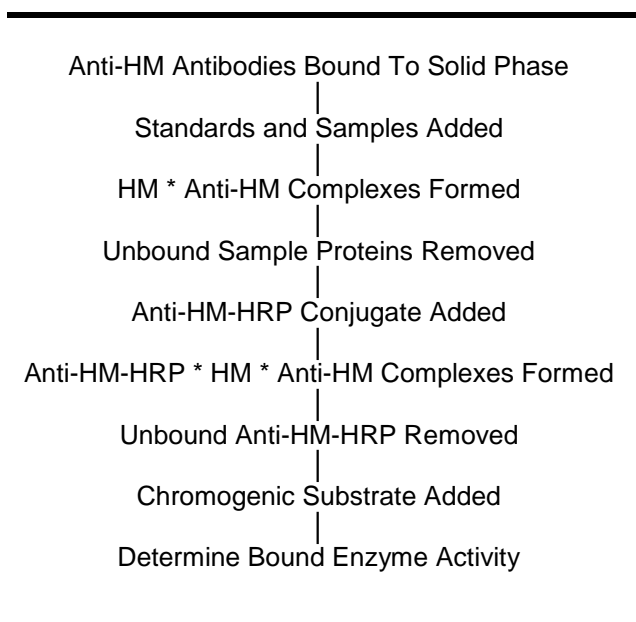

Figure 1
The principle of the double antibody sandwich ELISA is represented in Figure 1. In this assay the Hemoglobin (HM) present in samples reacts with the anti-HM antibodies, which have been adsorbed to the surface of polystyrene microtitre wells. After the removal of unbound proteins by washing, anti-HM antibodies conjugated with horseradish peroxidase (HRP) are added. These enzyme-labeled antibodies form complexes with the previously bound HM. Following another washing step, the enzyme bound to the immunosorbent is assayed by the addition of a chromogenic substrate, 3,3',5,5'-tetramethylbenzidine (TMB). The quantity of bound enzyme varies directly with the concentration of HM in the sample tested; thus, the absorbance, at 450 nm, is a measure of the concentration of HM in the test sample. The quantity of HM in the test sample can be interpolated from the standard curve constructed from the standards, and corrected for sample dilution.